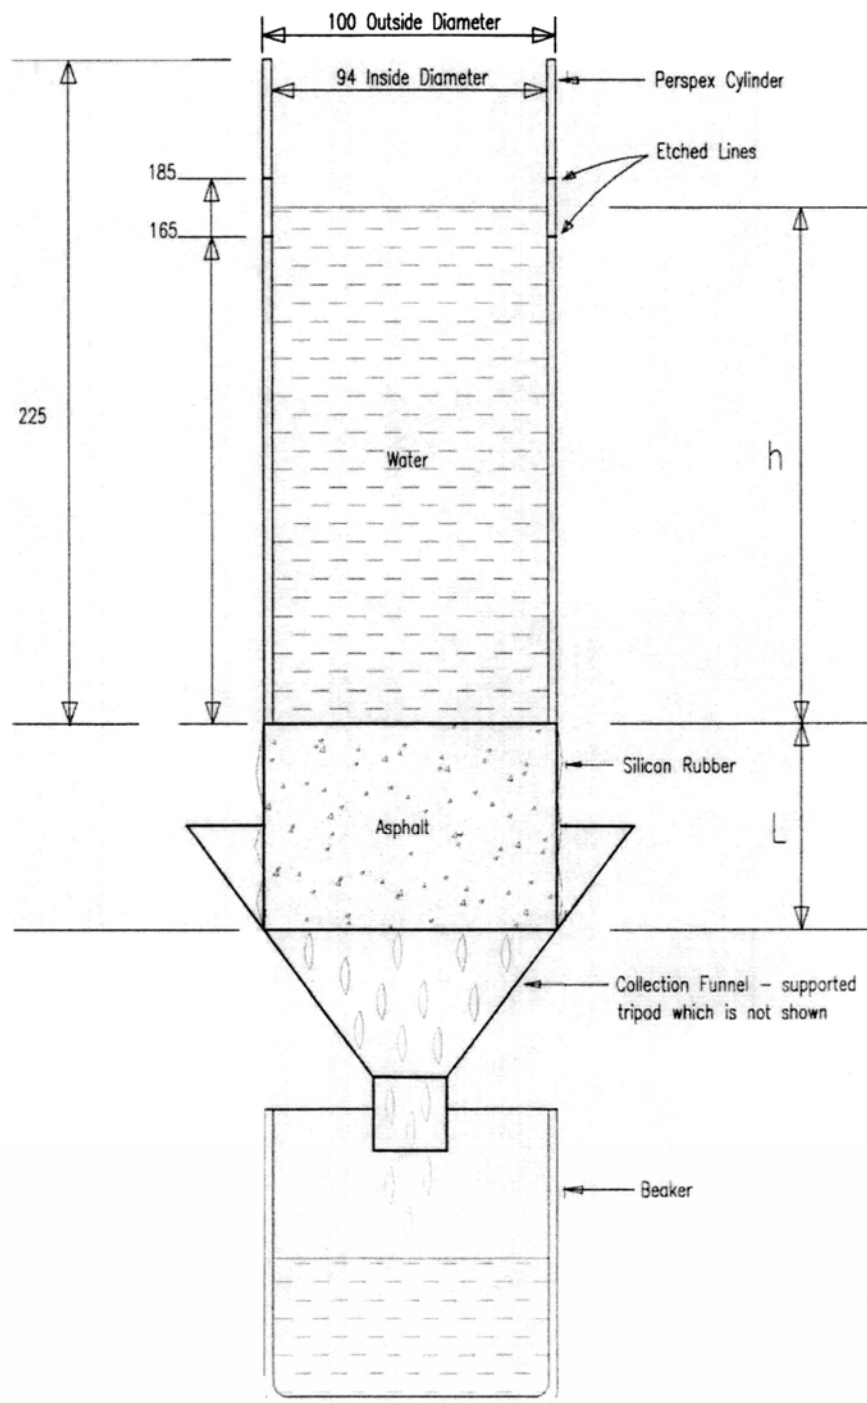

Figure 1 – Laboratory Permeameter
- (a) A clear perspex cylinder of length 225 mm with etched measuring marks at 165 and 185 mm (see Figure 1). The outside diameter of the cylinder is either a nominal 100 mm or 150 mm depending upon the size of the asphalt specimen being tested